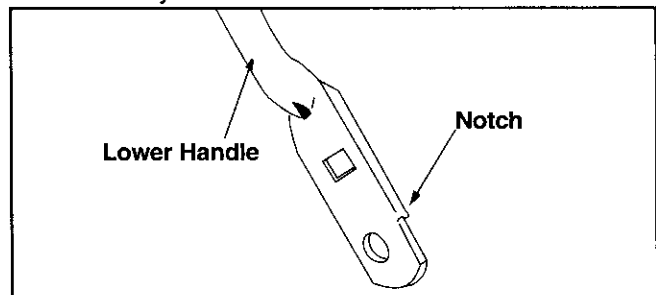

Figure 10
- Turn lower handle around so the notch on the bottom of the lower handle is facing forward. Reassemble, placing the bottom holes in the handle over the weld pins in the handle mounting bracket. See Figure 10.